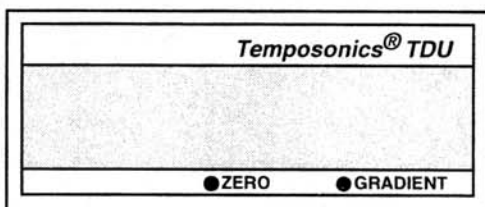
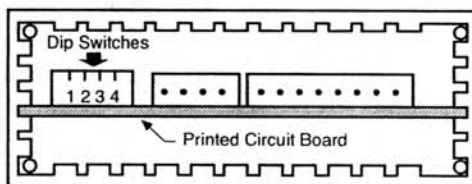

Figure 2
Figure 3
Press the left push button on the front panel of the TDU (labeled "Zero", Figure 2) to set the display value to "0". Dip Switch 1 (refer to Figure 3 for dip switch locations) when set to OFF, disables this function. The default setting for Dip Switch 1 is ON.
1. Ensure that Dip Switch 1 (refer to Figure 3 for switch location) is set to ON (If Dip Switch 1 is set to OFF, this function will be disabled). Press and hold the right push button (labeled "Gradient") on the front panel of the TDU for about 6 seconds. The TDU will respond by displaying the current Gradient value